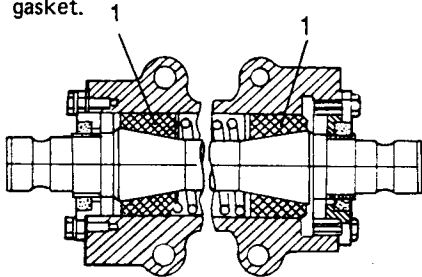

Fig L5.11
- (6) Refer to Fig L5.11. The relay shaft now has to be drifted through the lower end of the relay housing. In the sectioned illustration of the relay assembly, note that items (1) are split bushes with internal tapered faces, against which they are held by a compression spring.